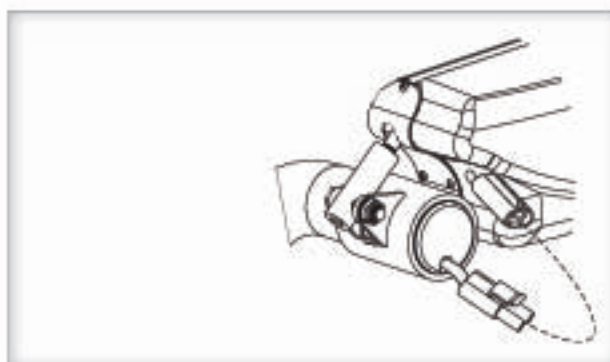

Figure 26-2
5. Plug in lifting motor. [Figure 26-2]